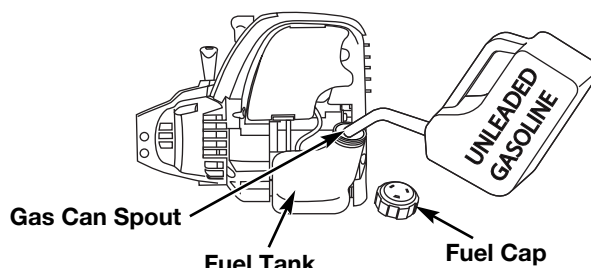

Fig. 6
1. Remove the fuel cap (Fig. 6).
2. Place the gas container's spout into the fill hole on the fuel tank (Fig. 6) and fill the tank.